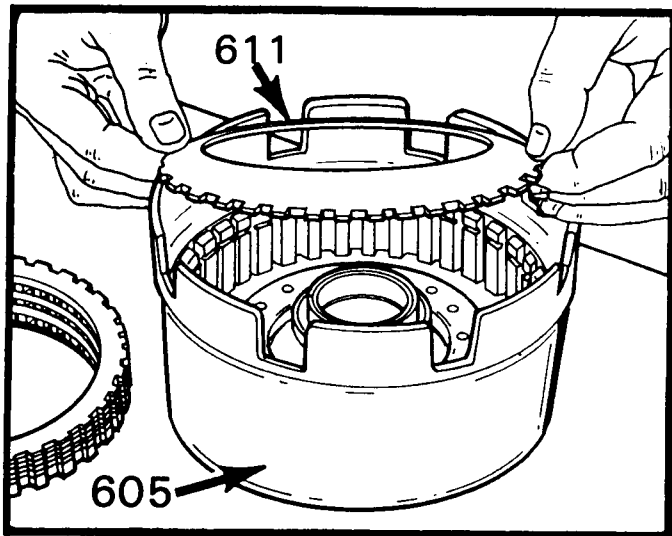

Figure 152
12. Install the reverse input "Bellville" plate (IF SO EQUIPPED), into reverse input housing, as shown in Figure 152. CONCAVE SIDE GOES DOWN.